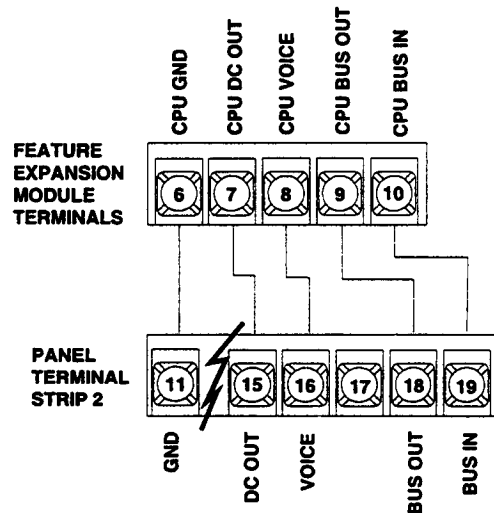

Figure 7. Wiring the 6-VDC Feature Expansion Module to the Panel
- For 6-VDC models, wire the module to the Panel as shown in Figure 7.